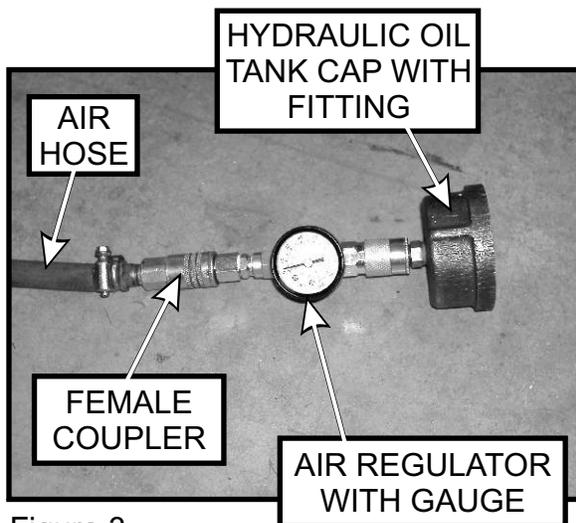
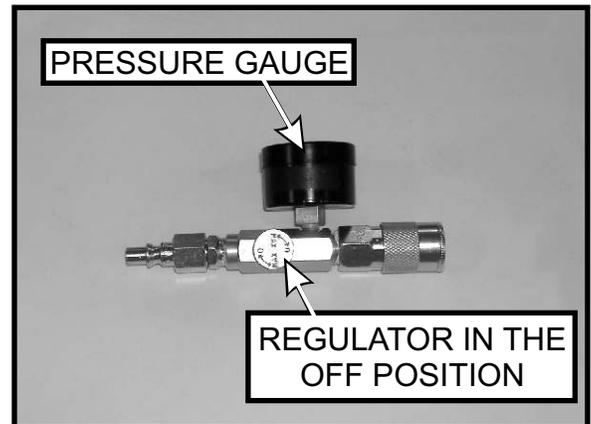

Figure 3
Figure 4
3. Attach the air regulator to the hydraulic oil tank cap with fitting and to the air hose. See Figure 3. Make sure the air regulator is in the off position. Figure 4